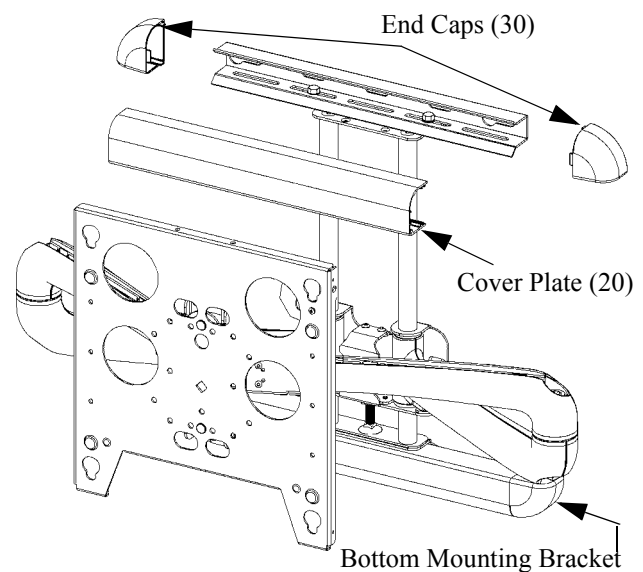

Figure 5. Install Cover Plates and End Caps
1. Install cover plate (20) over the top bracket. See Figure 5.
2. Install end cap (30) on the cover plate (20). See Figure 5.
3. Repeat steps 1 and 2 for the bottom mounting bracket. See Figure 5.